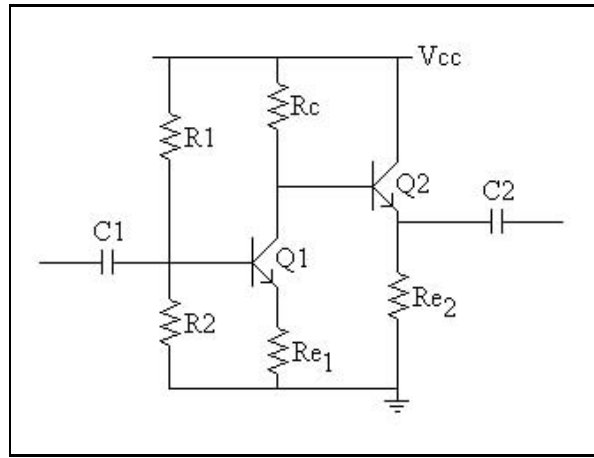

Figure 2.14: Two Stage Amplifier
1. Construct the multi-stage amplifier circuit in Fig. 2.14. Use $R_1 = 100K$, $R_2 = 10K$, $R_C = 10K$, $R_{E1} = 1K$, $R_{E2} = 10K$. Using the information above, determine the
6. For the multi-stage amplifier circuit in Fig. 2.14. Let $R_1 = 150K$, $R_2 = 15K$, $R_C = 20K$, $R_{E1} = 2K$, $R_{E2} = 15K$. Determine the values of the DC voltages V_{C1} , V_{B1} , V_{E1} , V_{B2} , V_{E2} , and V_C . What is the AC voltage gain? If a 20K load is attached to the output, what is the voltage gain?